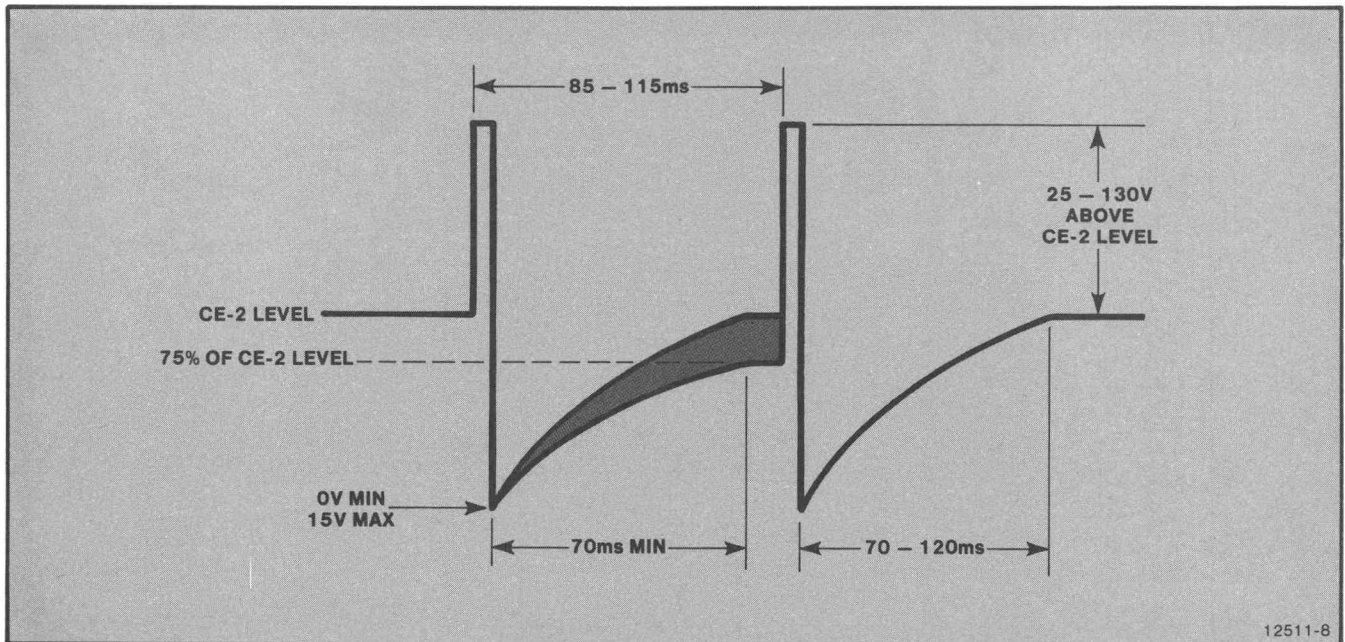

Figure 4-8. CE-2 Waveform.
20. **Do** the following using the waveform in Figure 4-8: